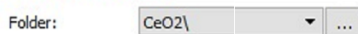

Figure 10. Data folder.
- On the general settings tab, select the data folder to store the sample information in from either the drop-down arrow or the ... as seen below in Figure 10:
- If you need to create a new folder select the ... (Figure 10), once the select folder window appears, right click to create a new folder, enter the folder name, and click ok. The folder should be in the list. Select the folder and click ok.